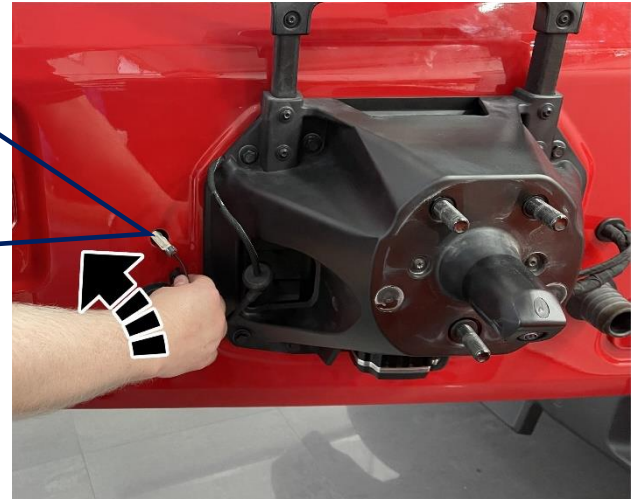

Figure 21 – Swing Gate Wire Routing
- 39. Remove the tape from the tapped wires secured to bracket and insert into the swing gate door hole secure the rubber grommet to the hole (Figure 21).